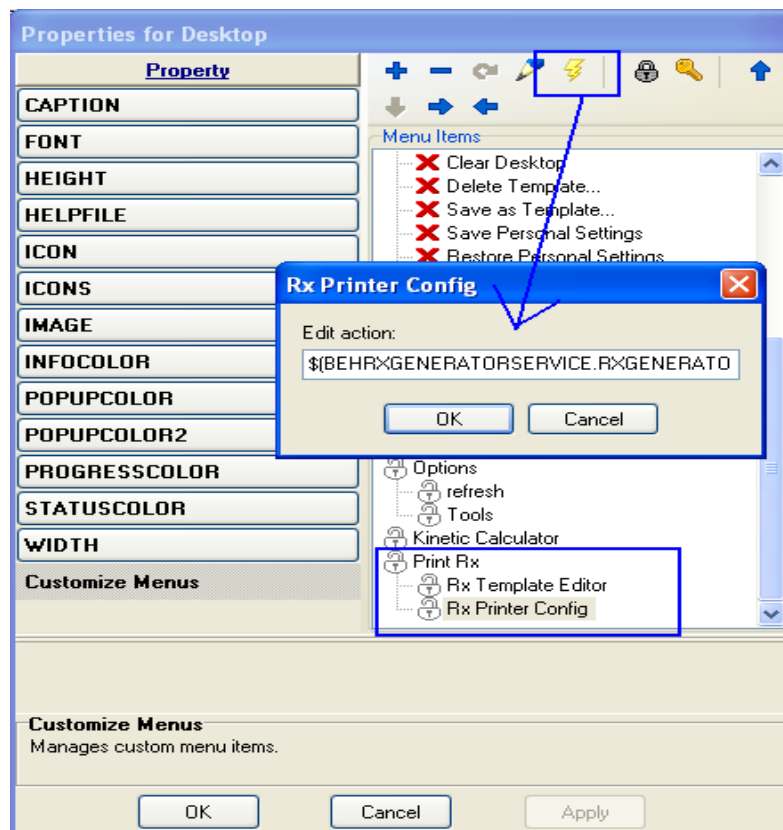

Figure 2-3: Rx Printer Config dialog
4. Rename the item “Rx Printer Config” (Figure 2-3).
Note: Optionally, add a “Print Rx” menu with the Rx Template Editor and Rx Printer Config as submenus (as shown in Figure 2-3).